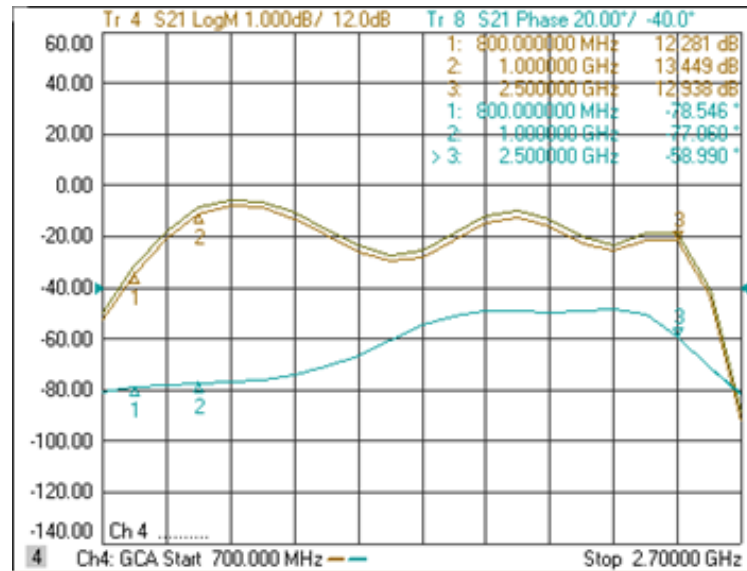

Figure 4-6. Typical A2 Driver Module Response
7. The typical response for the A2 Driver Module Amplifiers is shown in Figure 4-6.